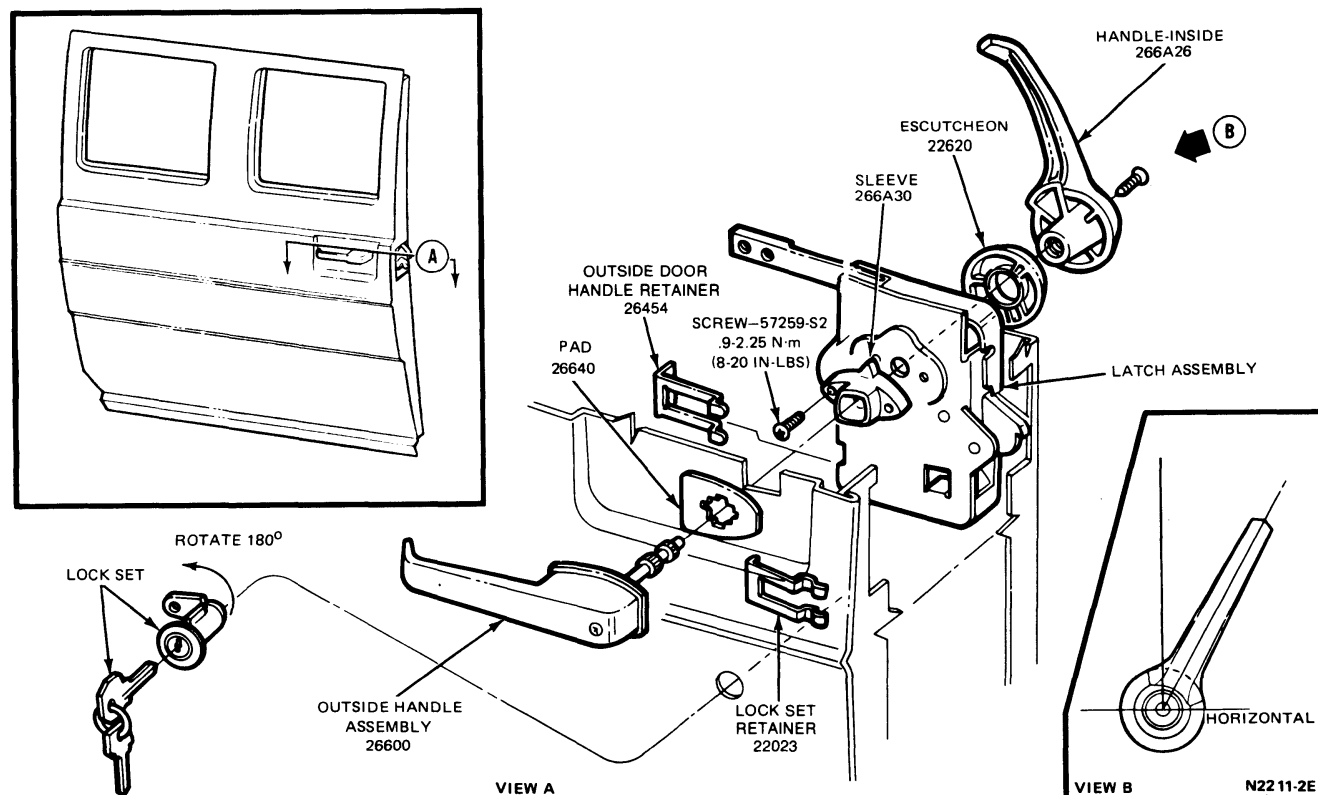

FIG. 5 Sliding Door—Lock and Latch—E-100—E-350
13. Position the sleeve to the latch assembly and install the retaining screws, (Fig. 5).
15. Connect the rear latch actuating rod to the rear latch assembly (Main View, Fig. 5). **The front latch must be in the full latched position and the rear latch must be in the secondary position before connecting the rear latch actuating rod to the rear latch assembly. Do not push or pull on the rod to make the hook-up. Align the attaching holes by rotating the adjuster on the rear latch actuating rod.**